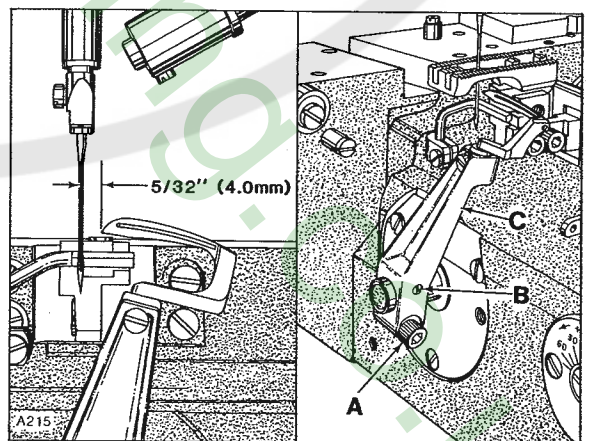

Fig. 9
Insert a new needle, type and size specified. With looper positioned at EXTREME right end of travel, distance from centerline of needle to point of looper should be $5/32$ inch (4.0mm). Adjustment can be made by loosening screw (A, Fig. 9) and turn screw (B) clockwise to increase looper gauge or counterclockwise to decrease. Apply pressure to the upper portion of looper holder (C) to the left while making this adjustment and locking with screw (A).